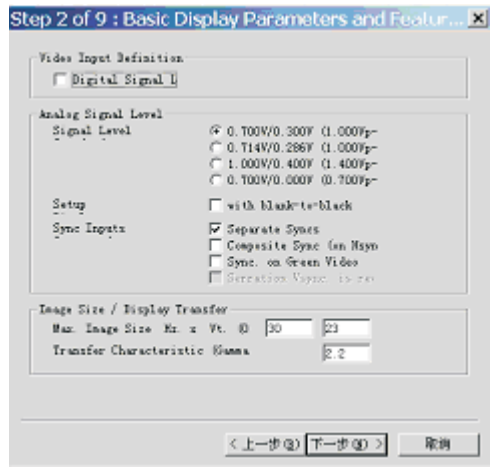

Fig. 15
- 1. Click Next , bring up Fig. 15.